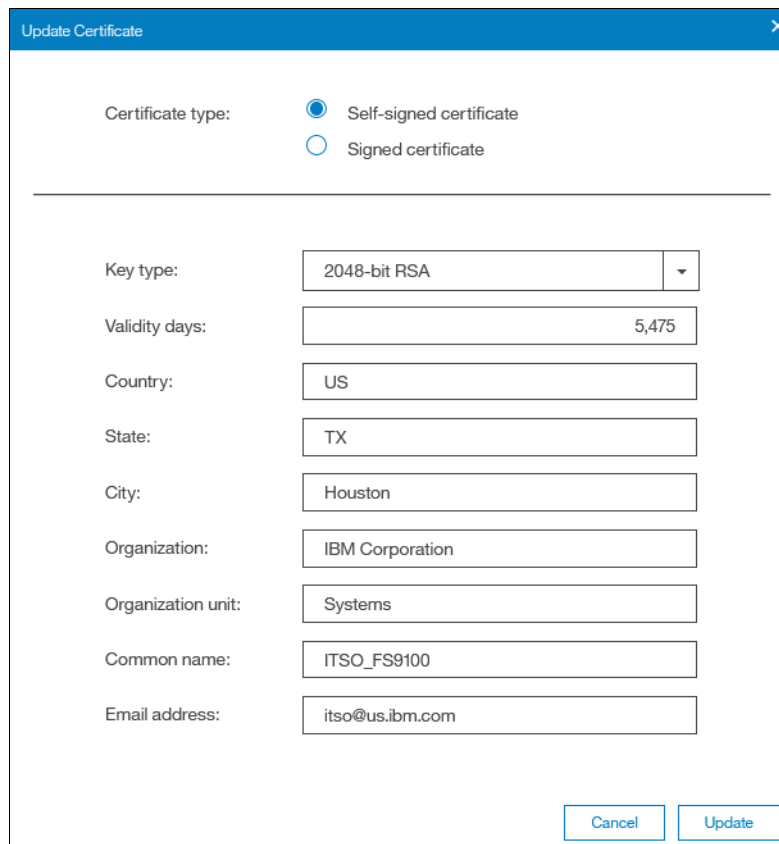

Figure 7-39 Generating a new self-signed certificate
2. Select **Self-signed certificate** and enter the details for the new certificate. Key type and validity days are the only mandatory fields. Figure 7-39 shows some example values.